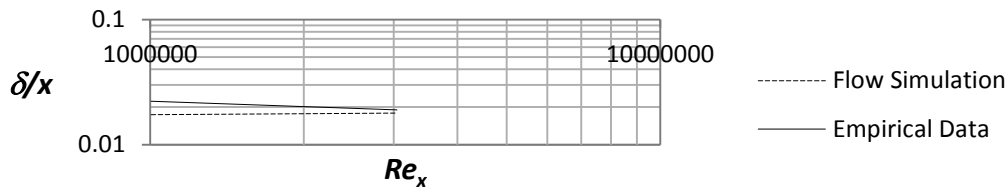

Figure 2.30b) Boundary layer thickness for turbulent boundary layers at $Re_x = 10^6 - 4.04 \cdot 10^6$
Place the file “**graph 2.30b)**” on the desktop. Repeat step **24** and choose the sketch **$x = 0.2, 0.4, 0.6, 0.8$ m** and check the box for **Velocity (X)**. Rename the xy-plot to **Turbulent Boundary Layer Thickness**. An Excel file will open with a graph of the boundary layer thickness versus the Reynolds number; see figure 2.30b).